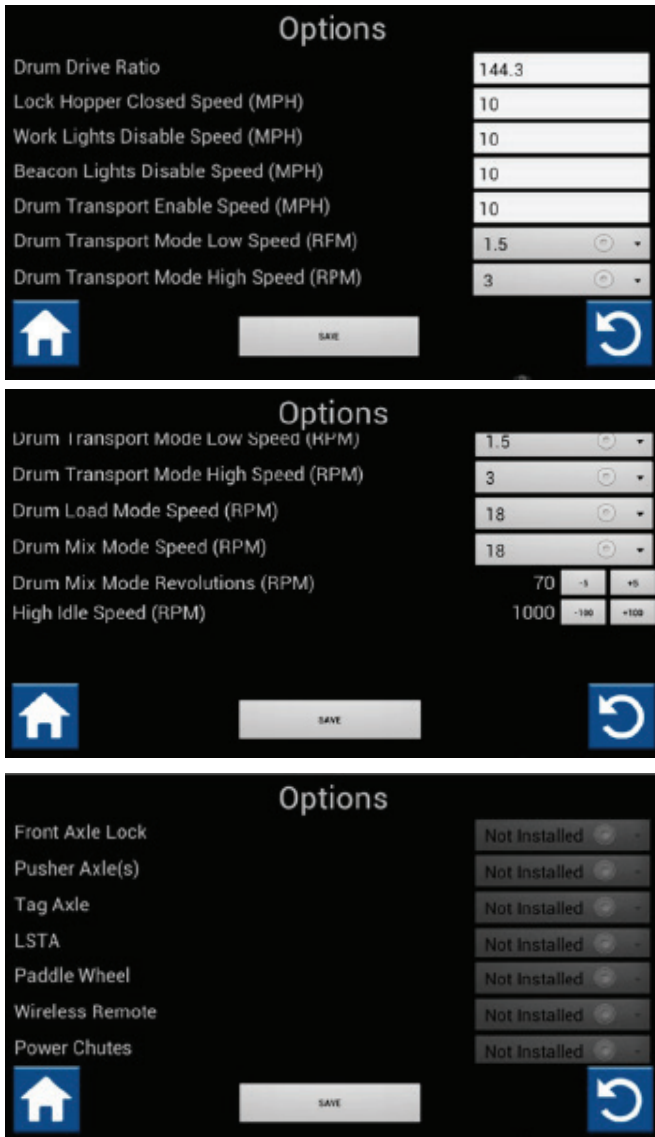

Figure 1
1. Log in as Service Manager and record all active/set vehicle options. See Figure 1.